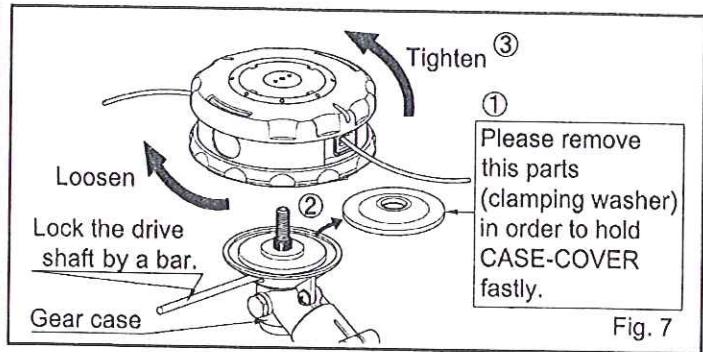

Fig. 7
1. Place the M-Twist head onto the gearcase of your trimmer or brushcutter. (Fig. 7)
2. Tighten the gearcase's bolt and nut firmly and then lock the driveshaft of your machine. (Fig. 7)